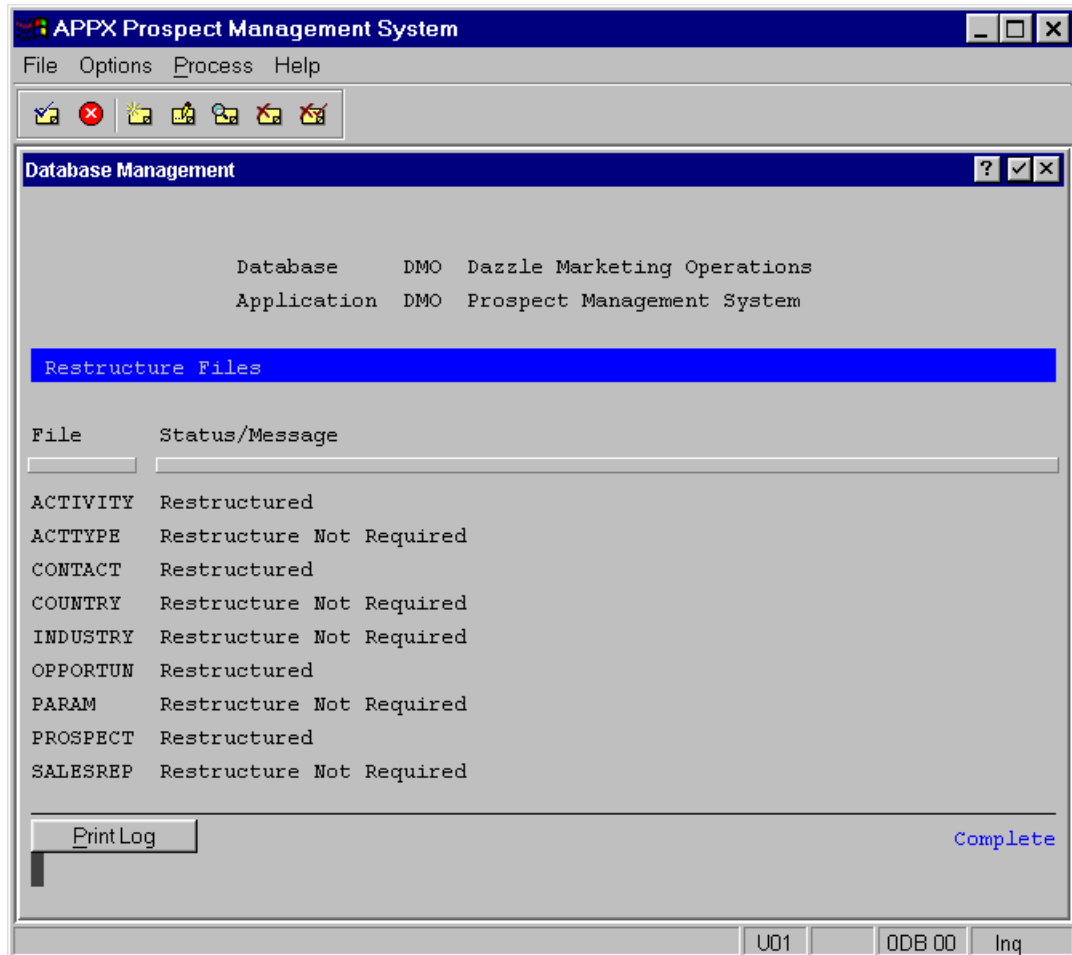

Figure E1.19 – Restructure Files Status Screen
- You could use the **File Selection** option to select just the four files that were changed. But, a wonderful feature of APPX is that it already knows which files need to be restructured, and will only restructure those four files. Therefore, leave all files selected and select the **Restructure Files** option. APPX restructures each of the selected files in turn and displays the status of each on the screen, giving you the option to print the restructure log if desired (*Figure E1.19*).